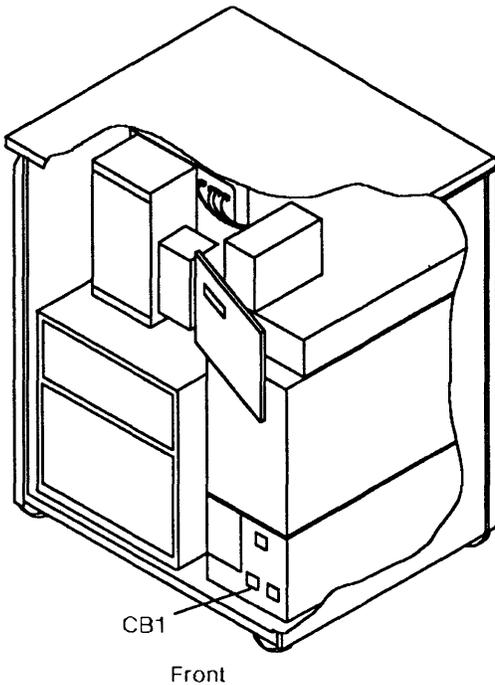

Figure 4-79. CB1 Location
4. **Switch CB1 OFF.** Refer to Figure 4-79